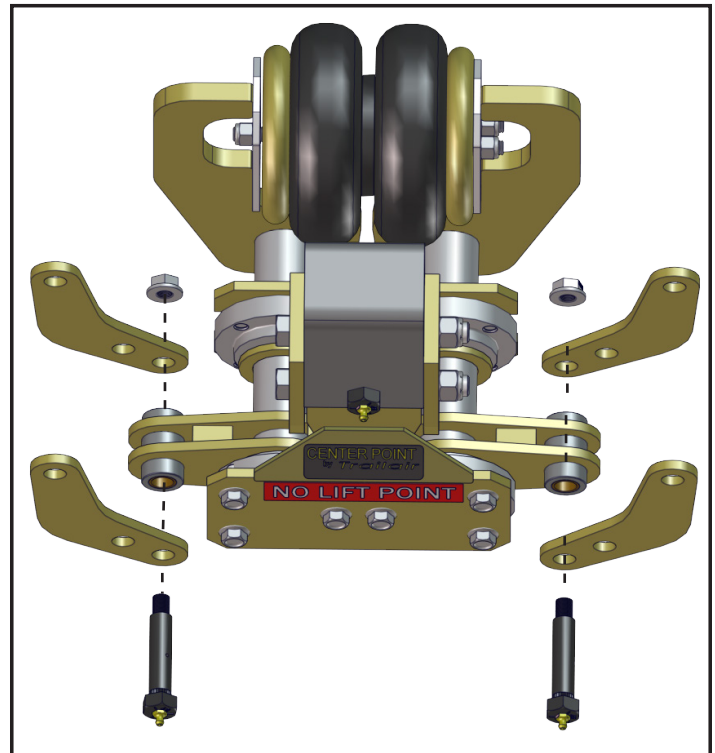

Fig.4
8. Starting on the left side of the assembly, dry fit one of the provided shackles onto the front of the sub-assembly's cross-shaft shackle links (**Fig. 4**).